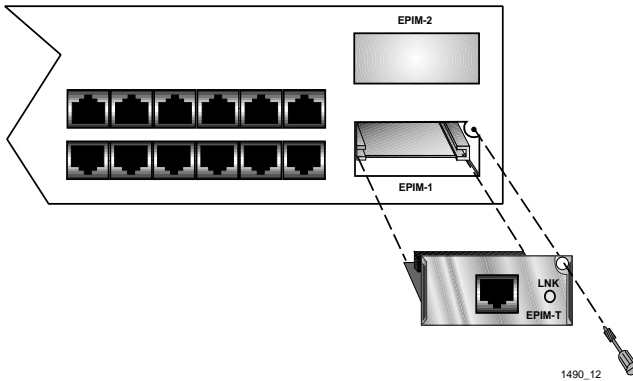

Figure 3-8. Installing an EPIM
2. Slide the new EPIM into place, making sure that the connectors on the rear of the EPIM align correctly and firmly with the connector inside the SEH. Refer to Figure 3-8.